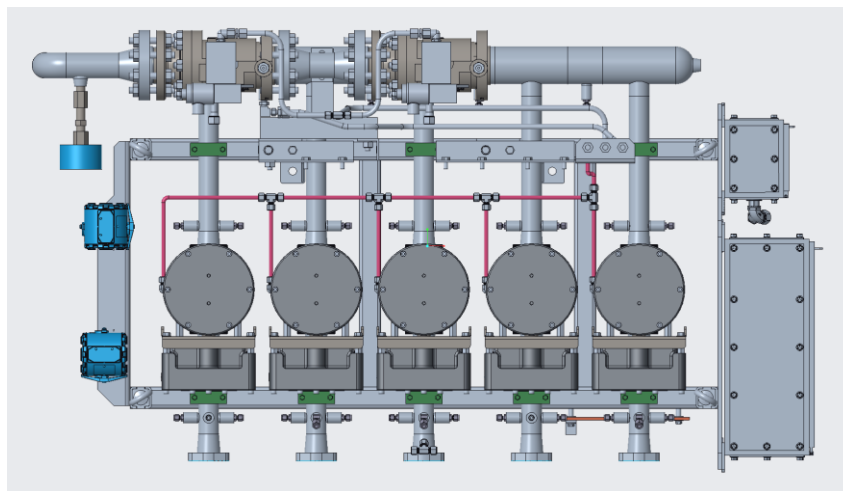

Figure 3-3. Approx. OBV Tube Routing
3. Using the 3/8" (SAE -06) double compression tee-fittings, route the 3/8" (SAE -06) 316/316L stainless steel tubing per the Woodward DLE Fuel Skid P&ID Drawing, as depicted in Figure 3-3.